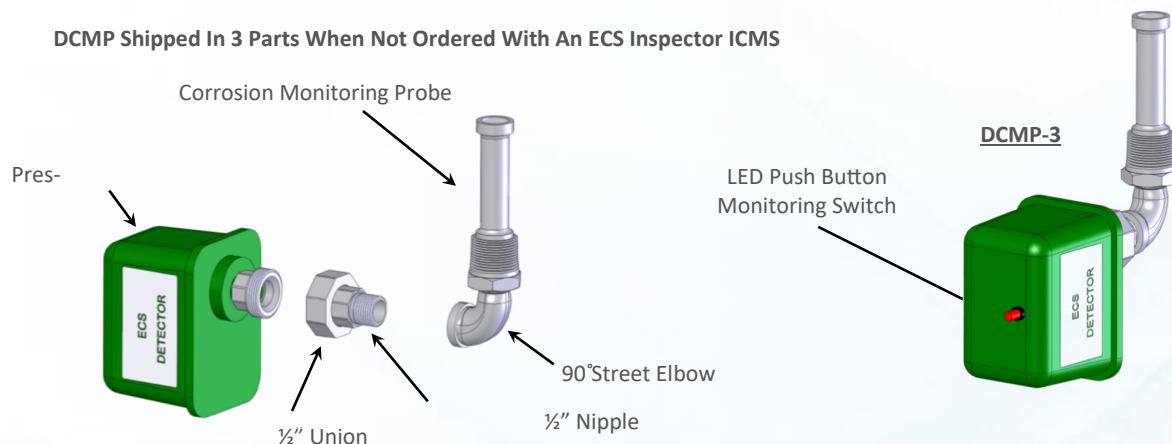

FIGURE 3: ECS Detector Assembly with an ECS Inspector Corrosion Monitoring Station
5. Do not handle probe with bare hands! Remove the ECS Detector Corrosion Monitoring Probe (DCMP) from the packaging using the latex gloves provided and carefully remove the cardboard protection sleeve. Apply Teflon tape to the 1" NPT male pipe threads and install the ECS Detector Corrosion Monitoring Probe into the bottom outlet provided in the ECS Inspector Corrosion Monitoring Station (see installation diagram on ICMS label or Figure 3).
6. Install the closed nipple, union, and pressure switch on the 90° street elbow that is connected to the ECS Detector Corrosion Monitoring Probe, using Teflon tape on all joints, to join the probe and pressure switch into a single unit as illustrated in Figure 2. **NOTE:** It is not recommended to mount the pressure switch in an inverted position. Therefore, it must be mounted in the vertical configuration shown in Figure 3.
join the probe and pressure switch into a single unit as illustrated in Figure 2. **NOTE:** It is not recommended to mount the pressure switch in an inverted position. Therefore, it must be mounted in the vertical configuration shown in Figure 3.